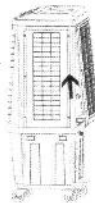

figure 2
2. Pull the side panel and take it out, as figure 2.